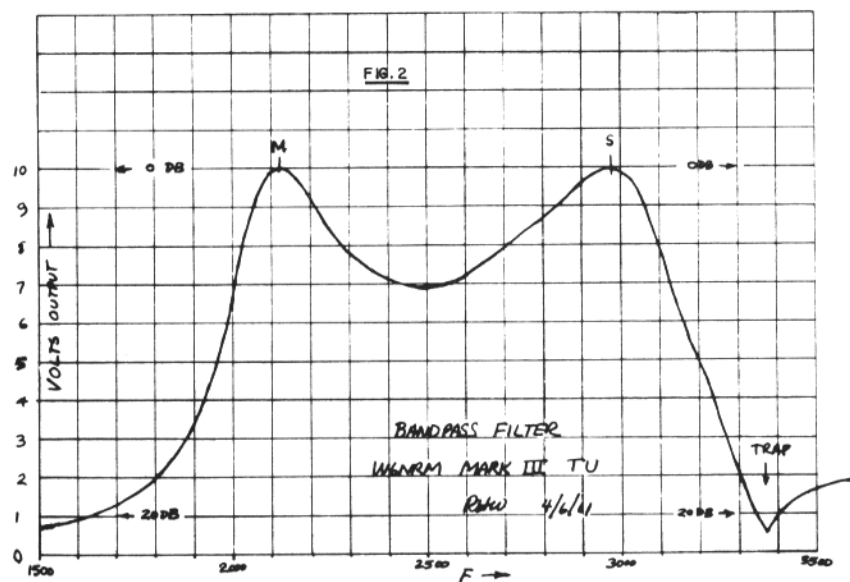

FIGURE 2
P.S. For those interested, curves showing Bandpass Filter and Discriminator responses are shown in Figs. 2 and 3 . . . .